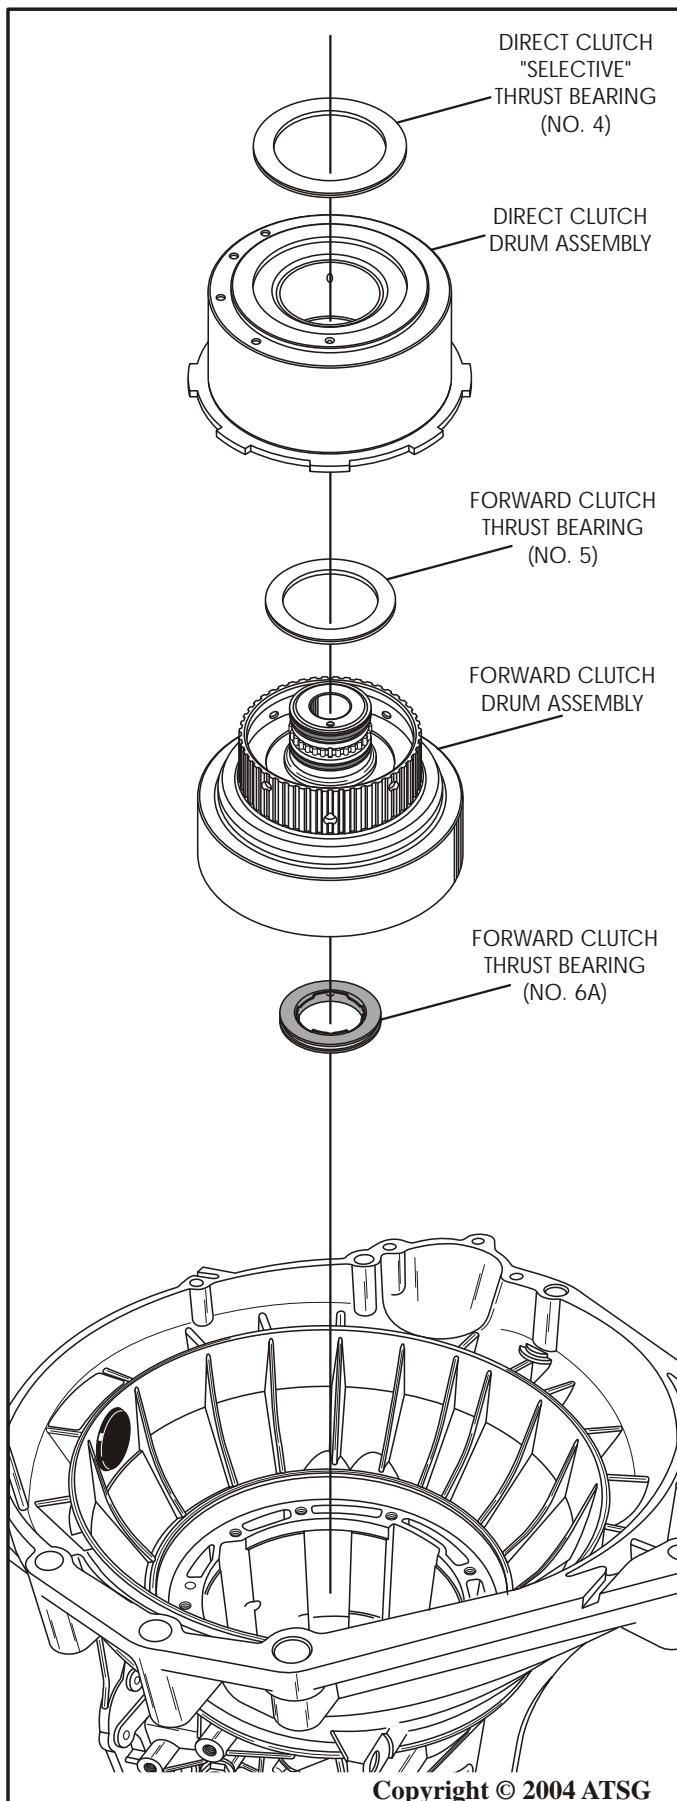

Figure 44
40. Remove and tag for I.D. direct clutch (No. 4) **selective** thrust bearing, as shown in Figure 44.
41. Remove the direct clutch housing assembly and set aside for component rebuild, as shown in Figure 44.
42. Remove and tag for I.D. forward clutch (No. 5) thrust bearing, as shown in Figure 44.
43. Remove the forward clutch housing assembly and set aside for component rebuild, as shown in Figure 44.
44. Remove and tag for I.D. the forward clutch (No. 6A) thrust bearing (See Figure 44).